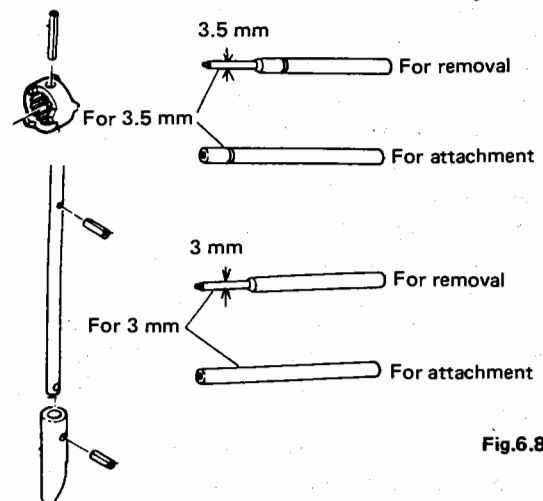

Fig.6.8
- Use special tools to remove and attach the clutch cam pin as shown in Fig.6.8.